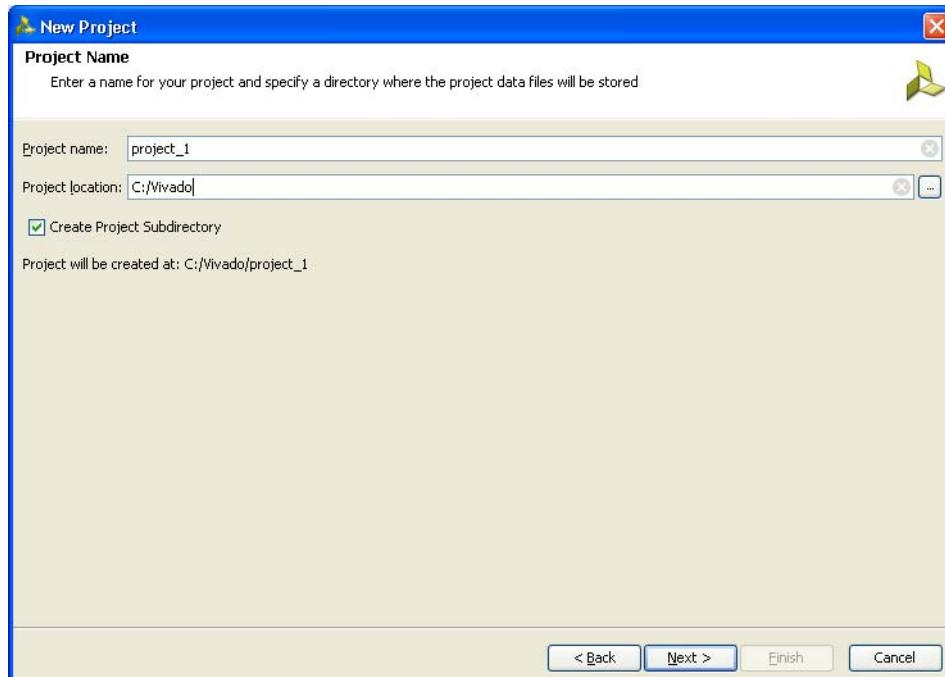

Figure 2-3: Project Name
- Click **Next** to proceed to the Project Name page (Figure 2-3). Enter the Project Name and Project Location. Based on the details provided, the project is saved in the directory.